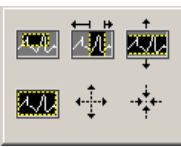

Figure 44
- Zoom – button: Enables zoom in and out of the display. The zoom button enables several options as shown in Figure 44.